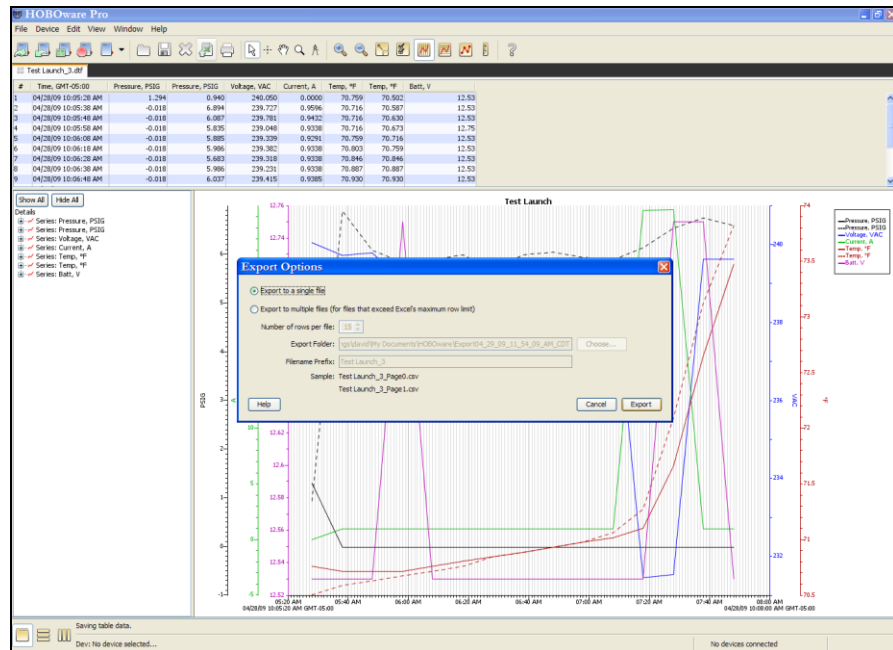

Figure 8. Select an Export Option
8) Choose 'export to a single file' and click 'OK' as seen in Figure 8.